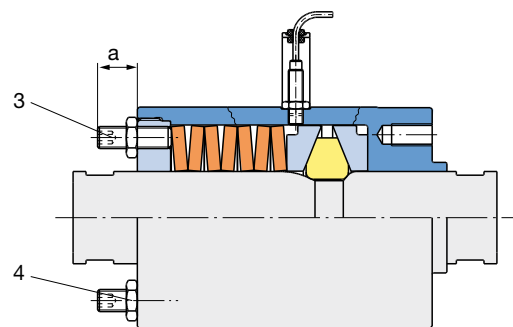

Fig. 4
Adjusting Sizes 5 – 8 (Fig. 4):
There are 4 or 6 set screws (3) in the adjusting nut (2), which can be set to Dimension "a" (see Fig. 4). Countering the set screws (3) with hexagon nuts (4) prevents inadvertent changes to the adjustment. The Adjustment Diagram shows the relationship between Dimension "a", Fig. 4 and the release force. On request, we can deliver the EAS®-axial pre-set to the required release force.